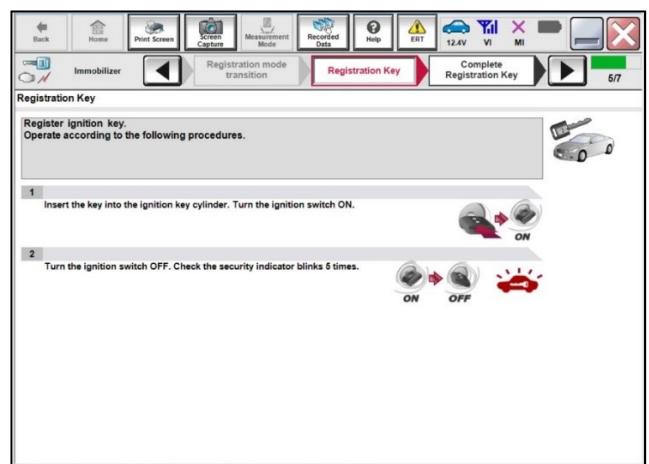

Figure 12
18. Follow the screen prompts to navigate to the screen shown in Figure 12.
20. Verify the Red Security lamp in the combination meter blinks five (5) times.